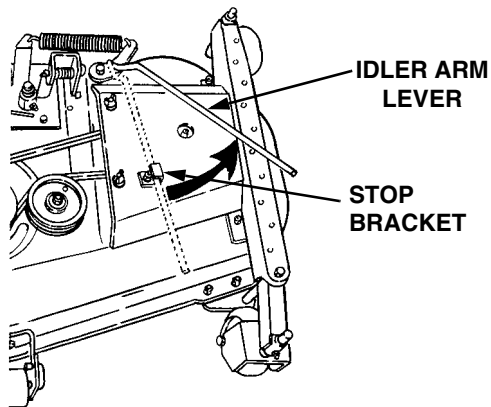

Figure 36
- Disengage the deck idler arm lever from its stop bracket and release the spring tension by rotating the lever out and rearward (Refer to Figure 36).